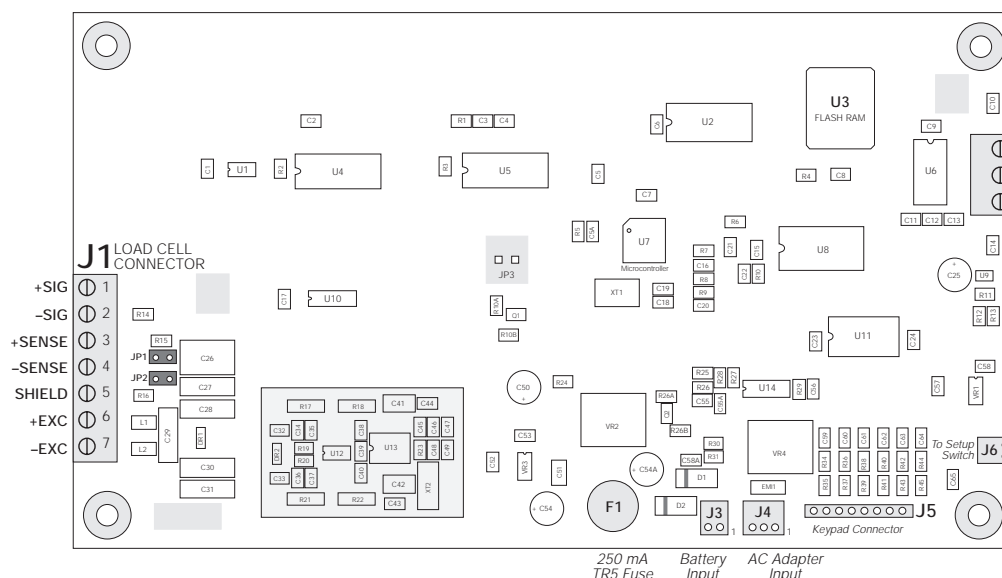

Figure 2-3. IQ plus 390-DC Indicator Board
14. If using 6-wire load cell cable (with sense wires), remove jumpers JP1 and JP2 before reinstalling connector J1 (see Figure 2-3). For 4-wire installation, leave jumpers JP1 and JP2 on.